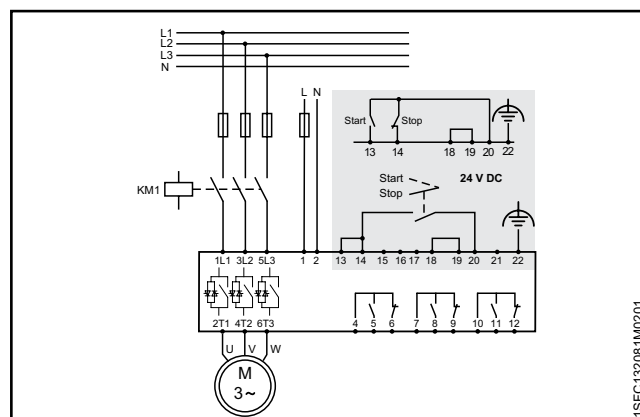

Figure 2.5
6. Look at the diagram, see **Figure 2.5**, and connect the start/stop circuits: terminal 13, 14, 18, 19 and 20/21, with the internal 24V DC terminal. When you use internal 24 V DC (terminals 20 or 21), the terminals 18 and 19 must be connected to each other. For external control circuit voltage, see chapter **5.1.2.3 Start and Stop - terminals 13, 14, 18, 19, 20, 21**.